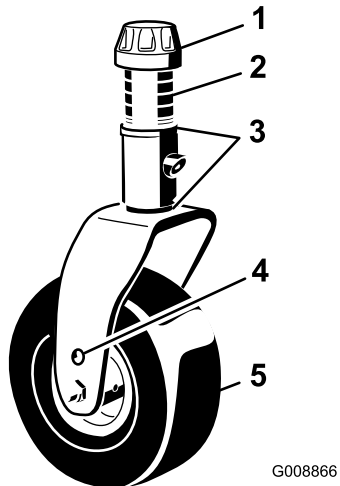

Figure 27
3. Adjust the shims (3 mm or 1/8 inch) on the front caster fork(s) to match the height-of-cut decal (Figure 27); refer to Adjusting the Mower-Deck Pitch (page 62).